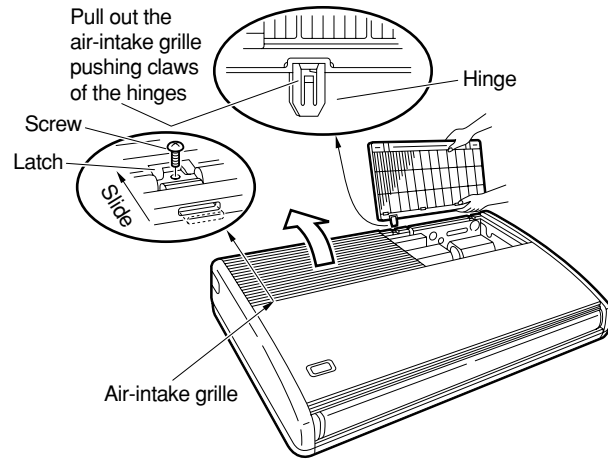
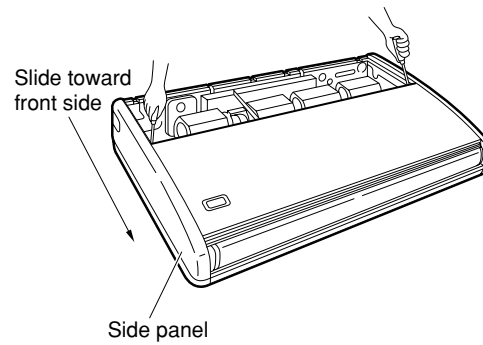

Fig. 3-41
Fig. 3-42
- (5) Before suspending the indoor unit, remove the 2 or 3 screws on the latch of the air-intake grilles, open the grilles, and remove them by pushing the claws of the hinges as shown in Fig. 3-41. Then remove both side panels sliding them along the unit toward the front after removing the 2 attachment screws. (Fig. 3-42)